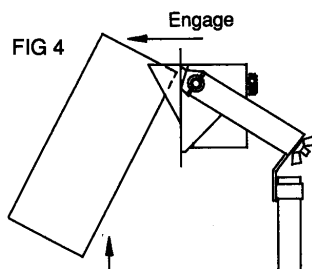

FIG 4
4. Offer up test unit to front of detector and engage top of front surround on top edge of detector. Fig 4.